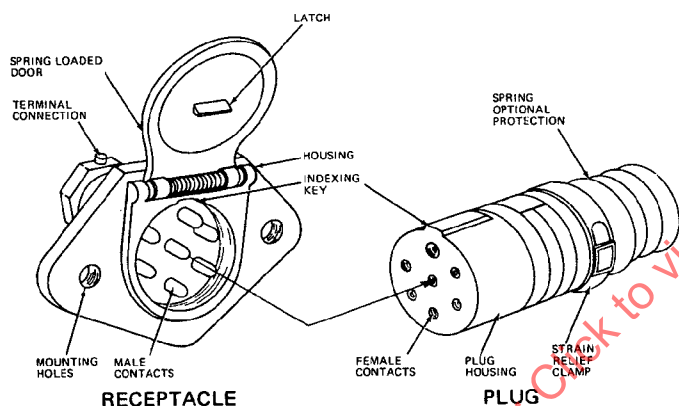

FIG. 1—SEVEN-CONDUCTOR ELECTRICAL CONNECTOR
2.1 The receptacle consists of the connector socket, its housing, and a cover which latches the male plug in place. The socket contains the male contacts. See Fig. 1.
2.2 The cable plug, cylindrical in shape and having an index key for ease of assembly, is attached to the end of the electric jumper cable. The cable plug houses the female contacts. See Fig. 1.